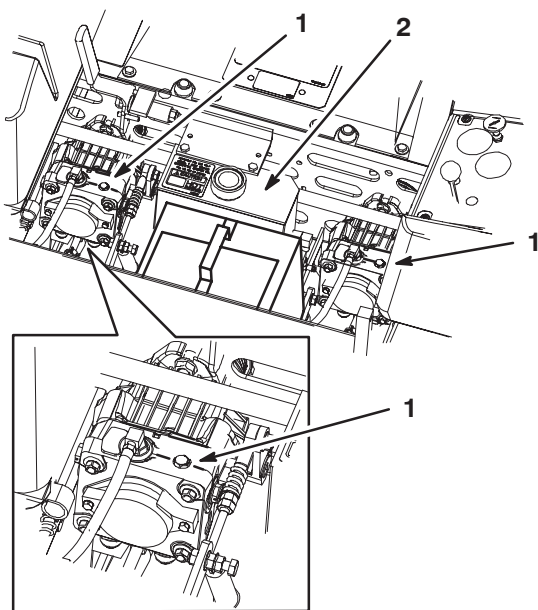

Figure 27
2. Rotate the by-pass valves counterclockwise 1 turn to push. This allows hydraulic fluid to by-pass the pump enabling the wheels to turn (Fig. 27).
1. Rotate the by-pass valves clockwise 1 turn to operate machine (Fig. 27).